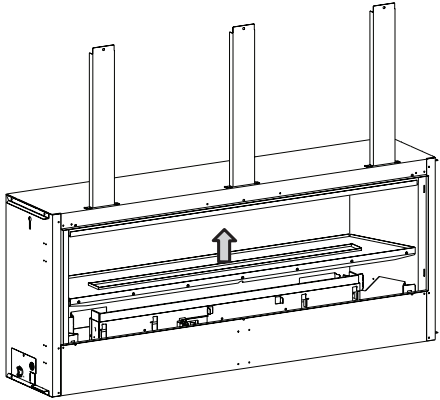

Figure 4
4. For VFLB(36,48) Models: Remove the burner cover by lifting it up and out. Set aside. See Figure 4.
10. **For VFLB(36,48) Models:** Reinstall the burner cover removed in Step 4. **See Figure 4.**